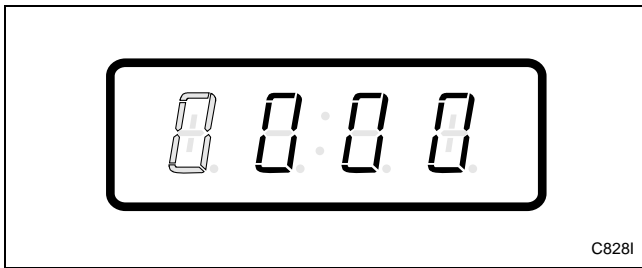

Figure 42
6. Press the START (enter) keypad to enter the fifth digit and display remaining four digits. The active digit will flash one second on and one second off. Refer to *Figure 42*.